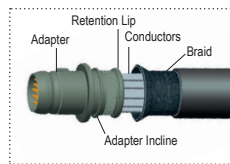

Fig. 1
1. Prepare cable braid for termination process (Figure 1).